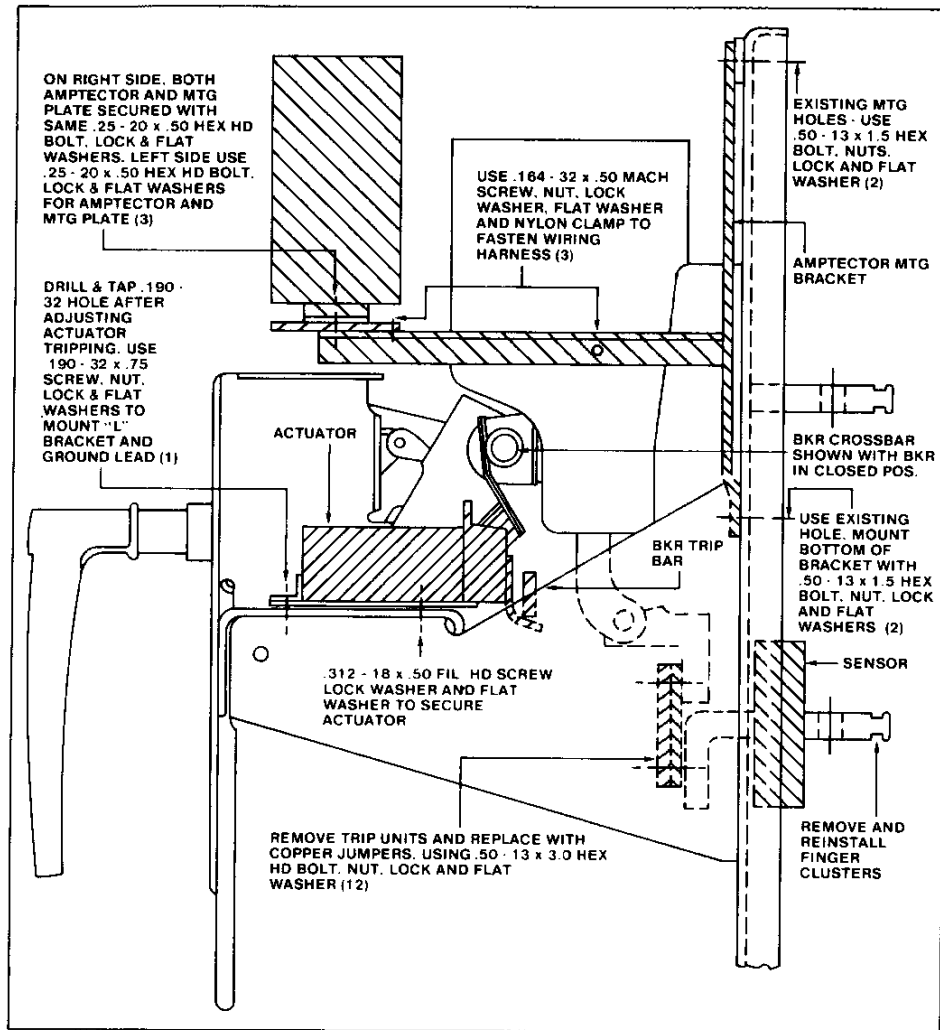

Fig. 23 Right Side View of DB-50
- B. Familiarize yourself with the right hand side view of breaker, Fig. 23.